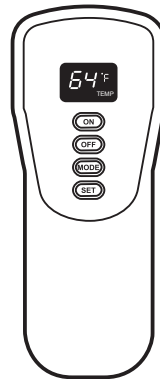

Figure 21 - Remote Control
1. Place the slide switch on the receiver in the remote position (see Figure 21).
4. Press the ON button on the remote control to light the burner (see Figure 21). You will hear a series of beeps. This will also "learn", or program, the remote and the receiver.
The factory setting for temperature is °F. To change this setting to °C, press the ON key and the OFF key on the remote control at the same time (see Figure 21, page 18). This will change from °F to °C. Follow this same procedure to change from °C back to °F.